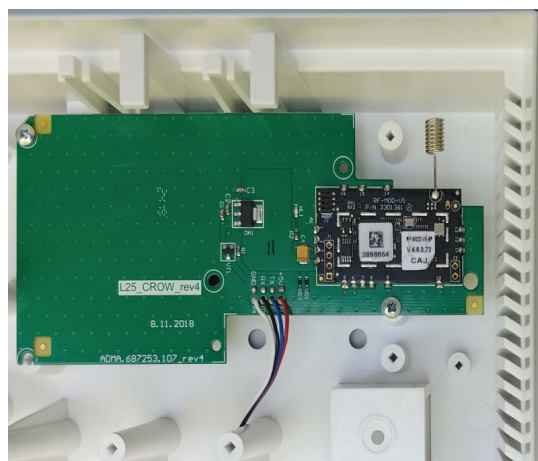

Figure 27. Adapter «L25_Crow_rev4» in the device housing
- “**L25_CROW_rev4**” Adapter – should be installed into the device housing (Figure 27);